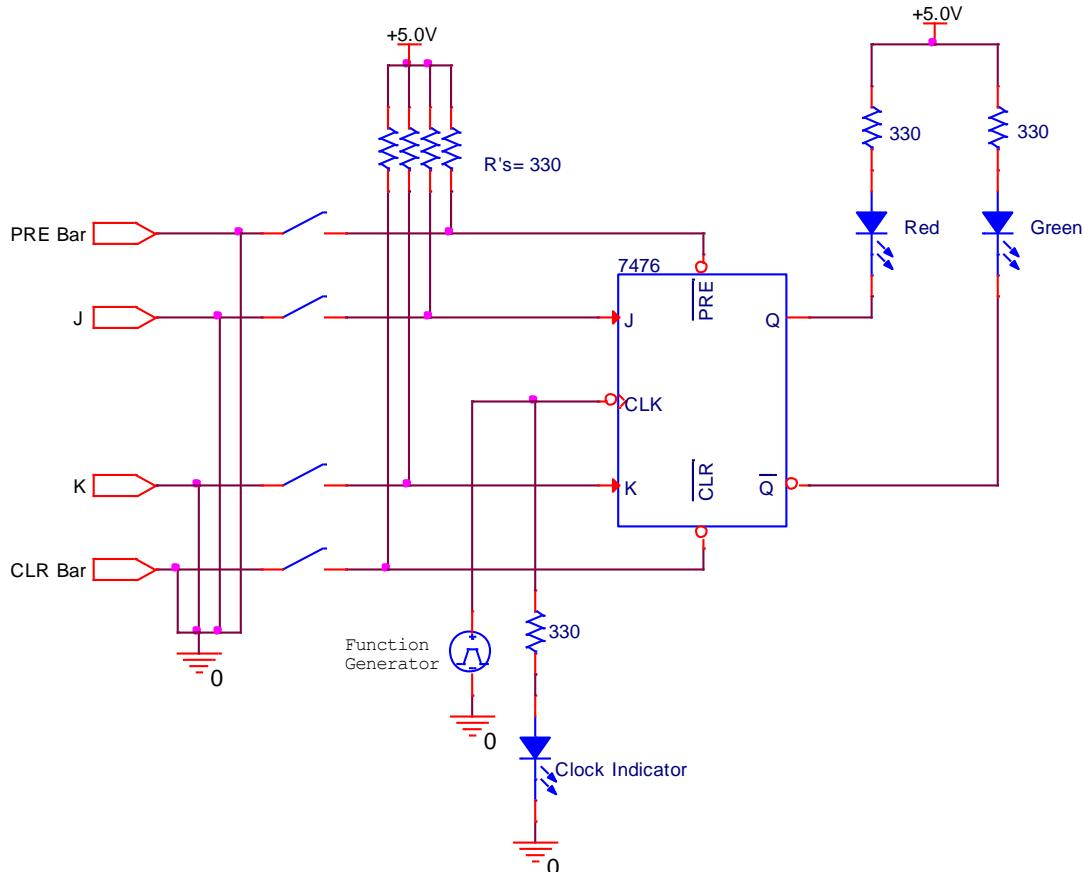

Figure 11.2
5. Construct the circuit shown in Figure 11.2. Connect the function generator to the clock input and set it to a 5V 1 Hz square wave with a DC offset of 2.5V. Add an LED clock indicator to the function generator so that you can observe the clock pulse and the outputs at the same time.